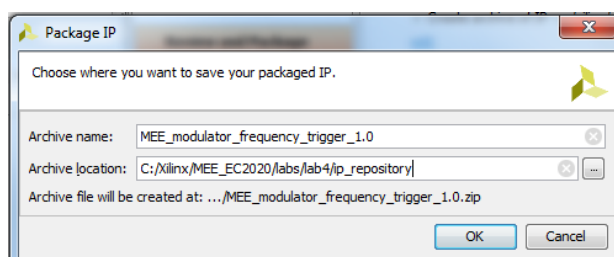

Figure 12. Package IP dialog box
- 2-2-9.** Click **edit** link next to the **Create archive of IP** name in the **After Packaging** selection to change the name and the location of the archive, see Figure 12.
- 2-2-12.** In the **Package IP** dialog box, change the Archive location to the new ip_repository folder, see Figure 12.